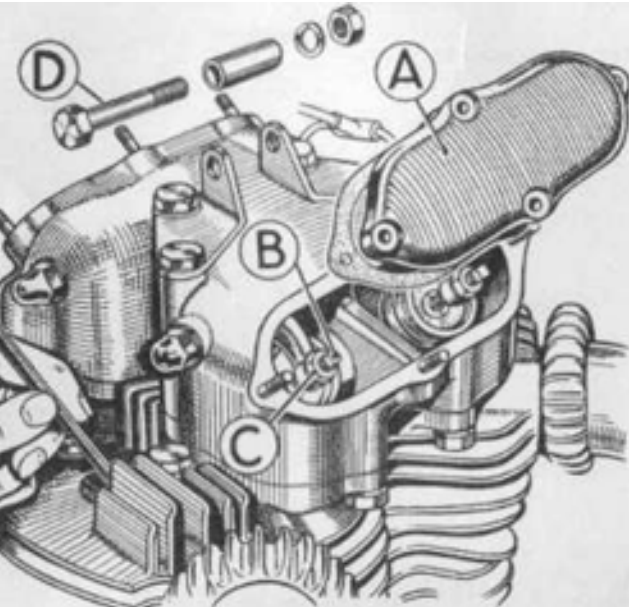

Fig. 4 Tappet Adjustment and Ignition Setting.
Remove the tappet inspection covers A (Fig. 4,) and rotate the engine until one inlet valve is fully open. This is the correct position for checking the other inlet valve clearance.
The adjusters which are of the screwed type, are on top of the rockers immediately above the valves. The clearance is measured by means of feeler gauges inserted between the valve stem and the screw B (Fig. 4).
It is necessary to remove the petrol tank in order to carry out decarbonisation. Turn off the petrol and detach the petrol pipes. Remove the petrol tank strap which is located under the front of the tank, and is held in position by two nuts. The central tank locking bolt can then be removed after the rubber plug in top of the tank is pulled off. Next detach the high tension leads and the sparking plugs. Disconnect the engine steady stay by unscrewing the bolt D, Fig. 4.
Take off the carburetter. If an air cleaner is fitted, slide the carburetter off sideways to disconnect the rubber sleeve, and then tie it back out of the way. The exhaust pipes are a push fit in the head and can be pulled away when the nuts holding the exhaust system to the frame are released. Disconnect the oil feed pipe to the rockers, and remove the rocker box covers A, Fig. 4. It will be necessary to take out the front stud inside the rear cover before the rocker box can be removed. Finally undo the five bolts, including the one inside the rear cover aperture, also four nuts under the rocker box and then lift off.
**Note:** The exhaust push rods are longer than the inlet rods. Make sure that the push rods are correctly inserted into the rocker ends, and tighten the rocker box down. This must be done carefully to avoid straining the rocker box due to the action of the valve springs. There are four nuts below the rocker box, and five bolts above the rocker box, one of which is accessible through the rear tappet cover. Remember to replace the engine steady stays Fig. 4, when tightening down the remaining four bolts.
Check the tappet clearances as described on page 14, and replace the covers A Fig. 4. Connect the oil feed pipe to the rockers. Clean and adjust the sparking plugs as described on page 14, and then connect the H.T. leads, making sure that each is coupled to its correct plug. Replace the carburetter, but if an air cleaner is fitted the rubber connection should be attached to the carburetter before it is finally bolted on to the cylinder head. Replace the exhaust system, check all nuts and bolts and finally replace the petrol tank and petrol pipes.